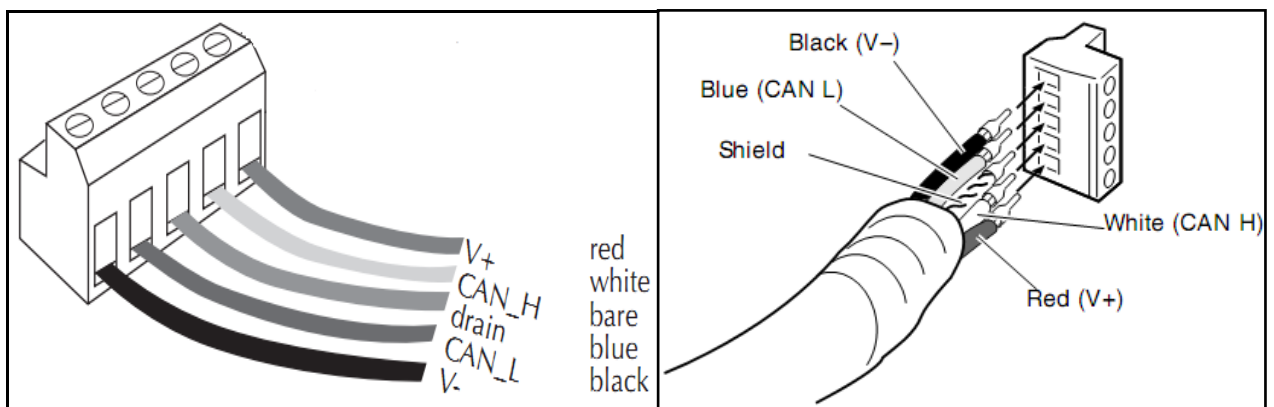
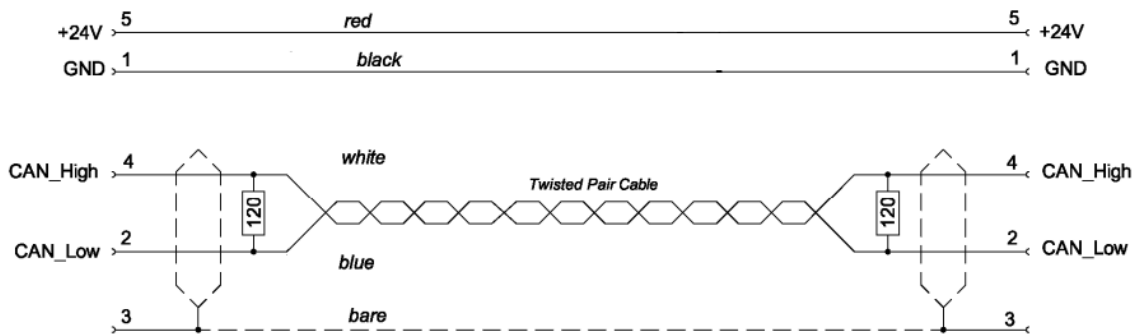

Fig. 3.3 Connector Pin Layout
Fig. 4.2 How to Connect Network Cable
A STL(Z) 950 5-pin OPEN Connector is used for how to connect between Cable and Connector DeviceNet Option Card, therefore a screw driver is used to fix 4 wires on DeviceNet field network --- V+(Red), CANH(White), CANL(Blue), V-(Black). Basically use a certified DeviceNet cable. For wiring between cable and Connector, refer to "Fig. 4.2", "Fig. 3.3".